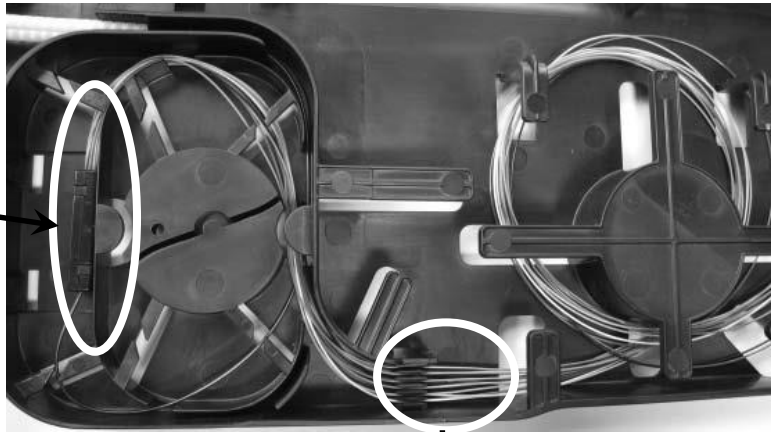

Fig. 17
- (iii) Dress fiber into chassis routing it through TB Fiber Holder, using TB Fiber Inserter Tool (Component No 10) or the end of a cable tie (Fig.17)